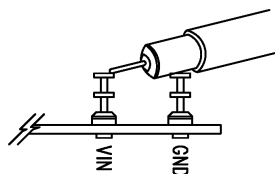

Figure 2. Measuring Input or Output Ripple
**NOTE:** When measuring the input or output voltage ripple, care must be taken to avoid a long ground lead on the oscilloscope probe. Measure the output (or input) voltage ripple by touching the probe tip and probe ground directly across the +VOUT and –VOUT (or  $V_{PORT\_P}$  and  $V_{PORT\_N}$ ) terminals. See Figure 2 for proper scope probe technique.